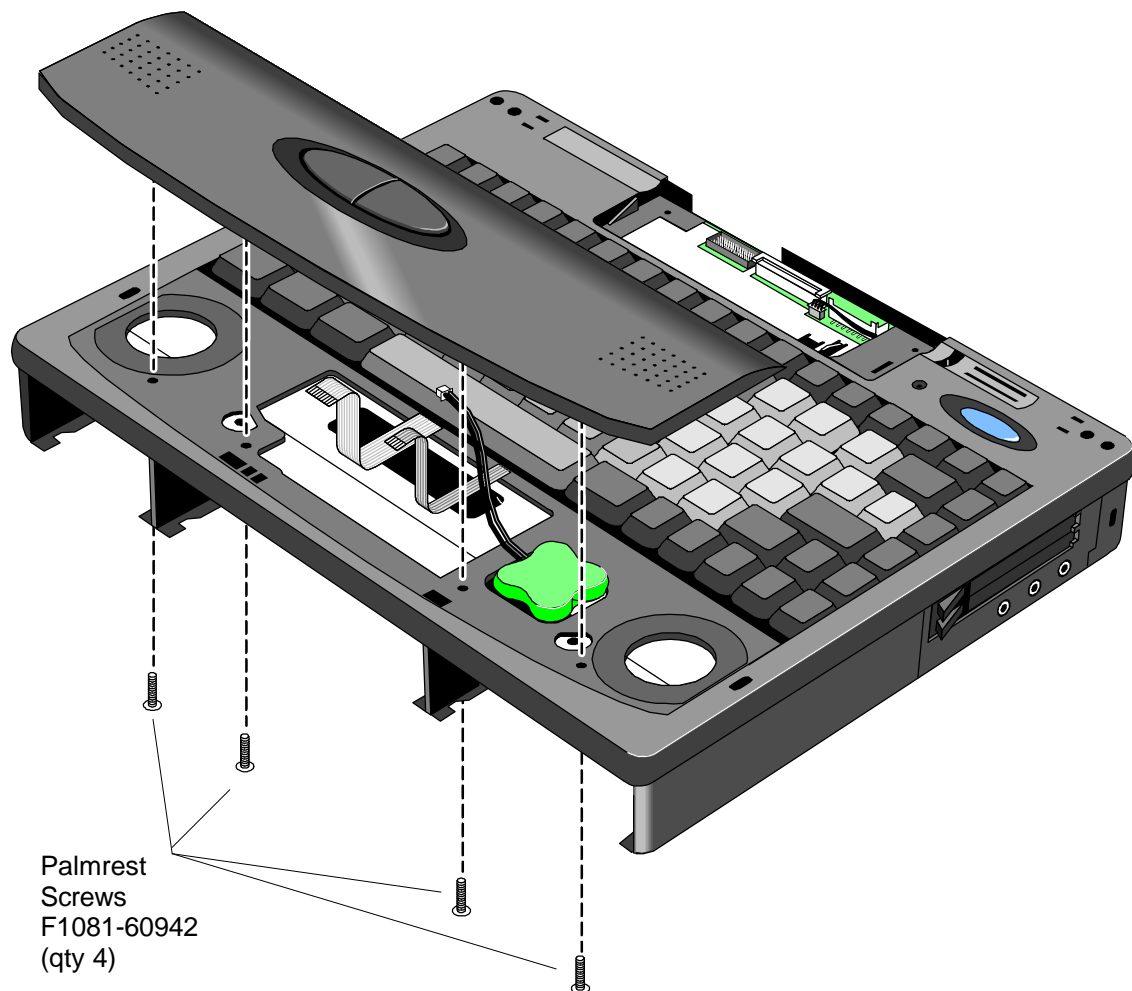

Figure 32 - Palmrest Assembly Removal
4. Remove the four Palmrest Screws (see Figure 32 for the location of the screws – Note, the Display is shown removed for illustrative purposes; it is not necessary for the repair procedure).